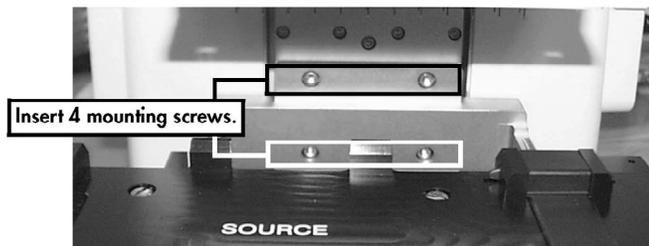

Figure 2-1: Mounting Stage onto Microdispenser
1. Place the X/Y Plate Stage so that the two holes in the mounting bracket align with the two pins in the mounting plate on the Hydra DT microdispenser. Secure the stage to the microdispenser with the 4 hex screws using the Allen wrench. See Figure 2-1.